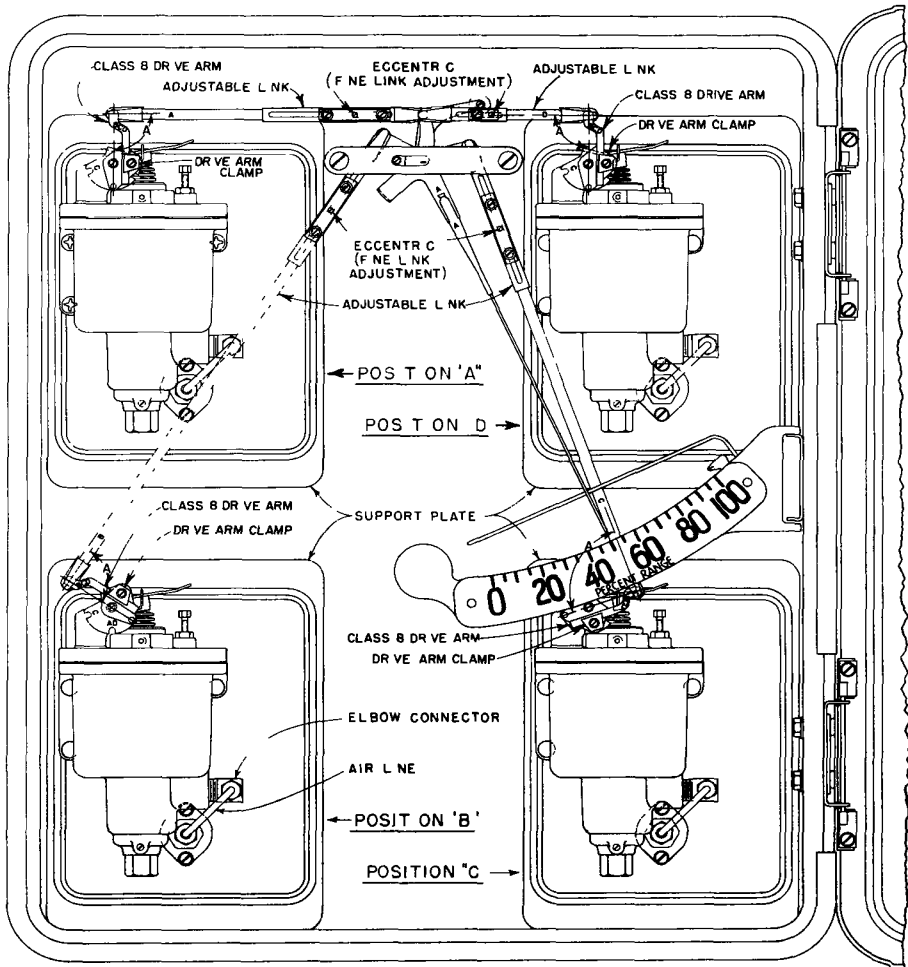
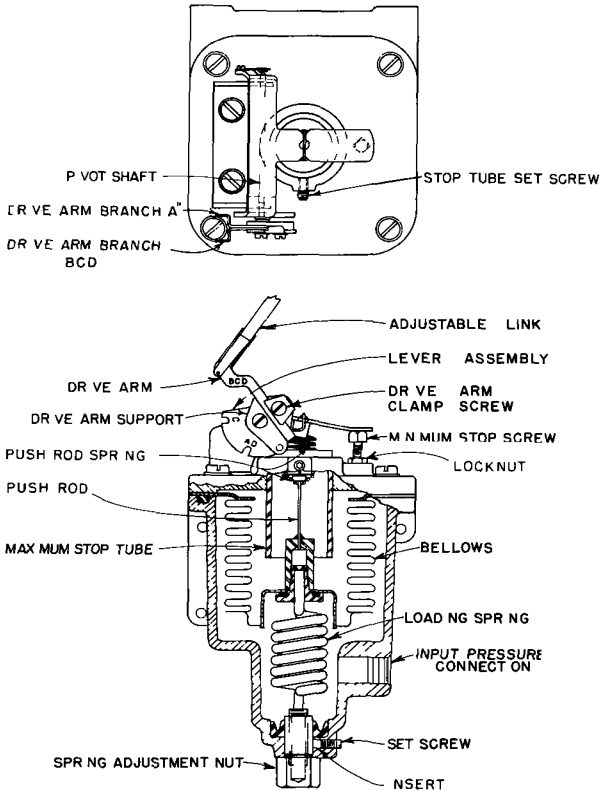

FIGURE 1 - Type KM55 Recorder with Four Class 8 Pneumatic Receivers
FIGURE 3 Class 8 Pneumatic Receiver
The adjustable links shown in Figure 1 transmit motion of the drive arm to the recording pen or indicating pointer yoke. The Receiver requires a different link for each Recorder or Indicator case position. Each link is stamped with the letter (A, B, C, or D) of the case position in which it is located.
3 Insert Receiver in new component position (Figure 1). Secure support plate to case with four mounting screws.
4 Remove screw attaching drive arm support to lever assembly (Figure 3). Remove support and reassemble with support pin in notch of lever marked with letter of new case position.
Refer to Figure 3 The Class 8 Pneumatic Receiver consists of a spring loaded bellows connected to a drive arm by a push rod and lever assembly The inside of the bellows is open to atmosphere Input pressure applied to the outside of the bellows acts against spring tension An increase or decrease in applied pressure causes the bellows to contract or expand Motion of the bellows is transmitted thru the drive arm and connecting
2. Apply midrange input pressure (9 psig for 3-15 range or 15 psig for 3-27 range) to Receiver input connection. Pen or pointer should read 50% chart or scale. If not, adjust the adjustable link as follows (see Figure 1):
3. Apply minimum and maximum input pressure and note pen or pointer readings. If pen or pointer has not moved to zero and 100% chart or scale, respectively, adjust as follows (see Figure 3):
b. loosen minimum stop screw locknut (Figure 3) and adjust minimum stop screw so it just touches lever assembly.
b loosen stop tube set screw (Figure 3) and adjust stop tube so it just touches bellows.
2 Angle "A" between Class 8 drive arm and adjustable link (Figure 1) should be about 90° If not, loosen set screw holding spring adjustment nut (Figure 3) and turn spring adjustment nut to set angle at about 90° Then tighten set screw
The Class 8 Pneumatic Receiver requires no routine maintenance If the Receiver operates incorrectly, check for leakage with a soap suds solution at pressure connections, top cover, and spring adjustment nut If Receiver must be disassembled for service, follow the procedure outlined below Refer to Figure 3